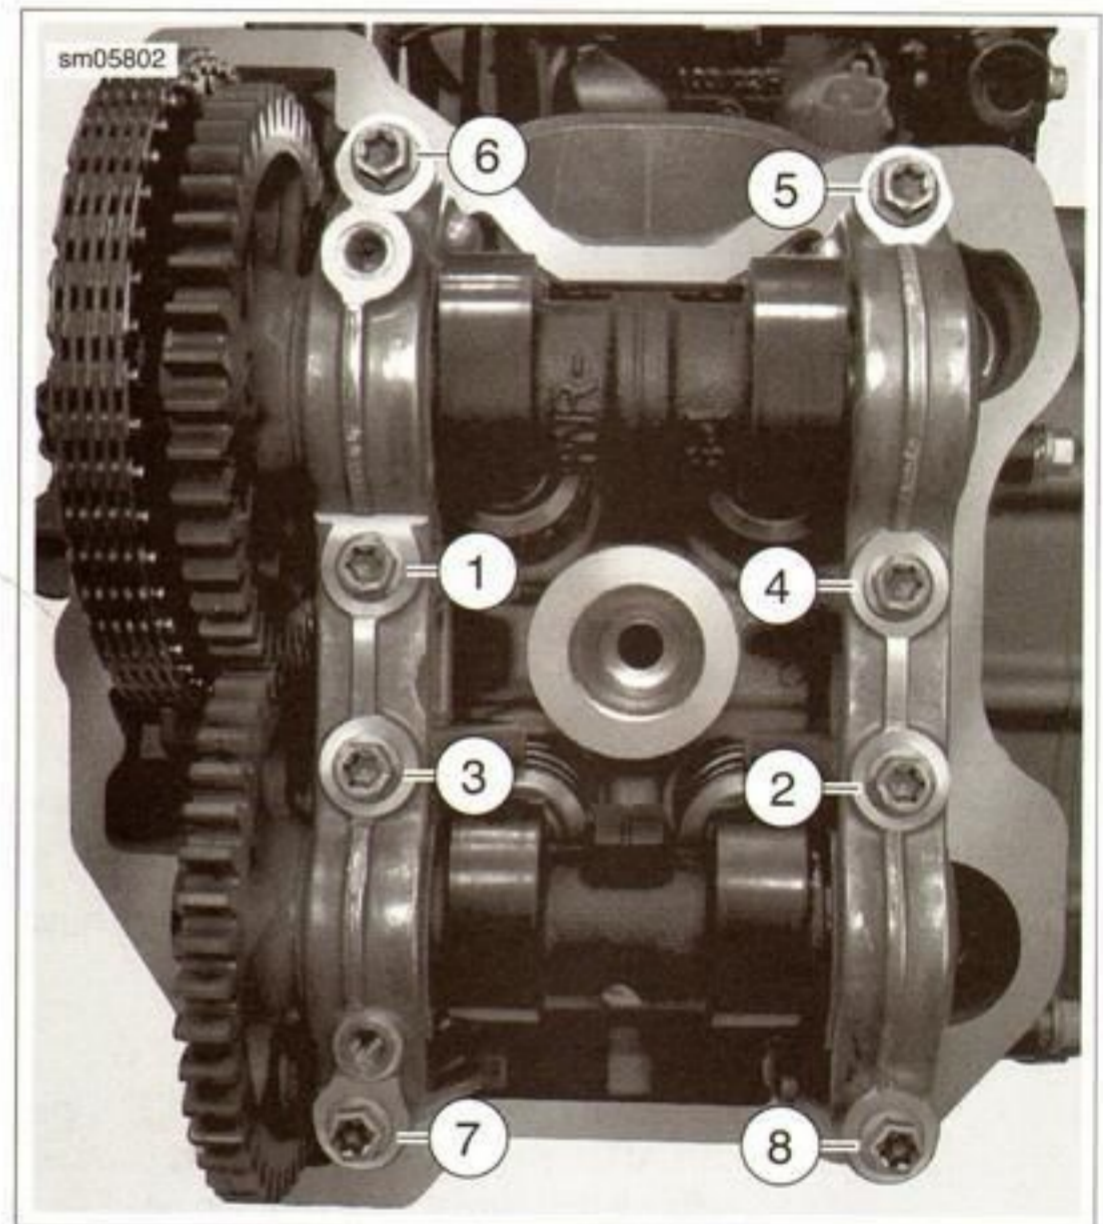

Figure 3-75. Camshaft Assembly Torque Sequence
5. See Figure 3-75. Install camshaft bracket fasteners and tighten in sequence shown to 10 Nm (89 in-lbs).
5. See Figure 3-75. Install camshaft bracket fasteners and tighten in sequence to 10 Nm (89 in-lbs).